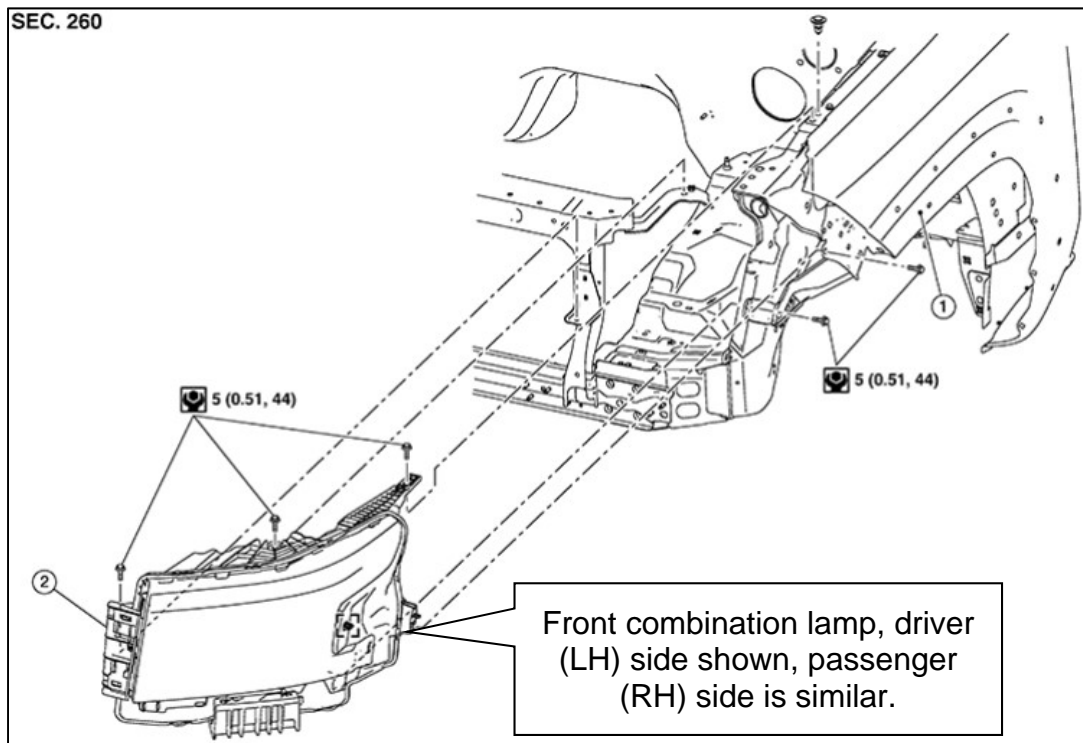

Figure 7
6. Replace the front passenger (RH) combination lamp.
- Tighten the front passenger (RH) combination lamp bolts to 5.0 N•m (0.51 kg-m, **44 in-lb**)
**HINT:** The front driver (LH) combination lamp is shown in Figure 7, the front passenger (RH) combination lamp is similar.